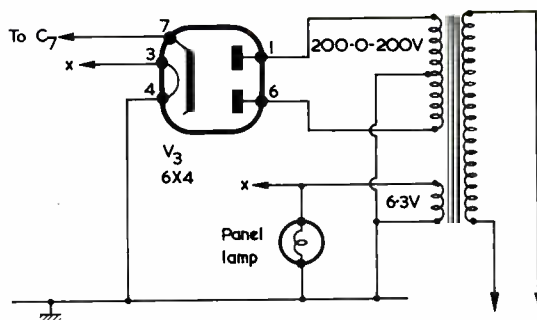

Fig. 2. An alternative power supply using full-wave rectification
The power requirement is very modest and a small mains transformer able to provide 220V 20mA and 6.3V 1.5A is quite adequate. Half-wave rectification is given by a 6X4, but a metal rectifier or silicon diode will do just as well provided it has a peak inverse voltage (p.i.v.) rating of not less than 800. The end of the diode or rectifier marked red, or with a + sign, is the equivalent of the valve cathode. If the transformer has a full wave h.t. secondary winding, it is better to use full-wave rectification by valve and Fig. 2 shows how this should be arranged.* A 200-0-200 volt secondary will be adequate here.
* At 200 volts r.m.s., the 6X4 should have a limiting resistance of 240 Ω in series with each anode. With a small mains transformer, this will normally be given by the resistance of the windings themselves. In Fig. 2, the resistance of either half of the h.t. secondary, plus the resistance of the primary, should be 240 Ω or more. If less, insert physical resistors, to make the total resistance up to this value, in series with each anode. In Fig. 1, the resistance of the h.t. secondary plus the resistance of the primary should, preferably, be 280 Ω or more. If less, insert a physical resistor, to make the total resistance up to this value, between the h.t. secondary and the anodes.—Editor.
Fig. 2 (a). The Lektrokit lead-through insulator (b). The insulator is a push fit in any of the $\frac{1}{4}$ in holes of the Chassis Plates, soldered connections being made to the protruding centre conductor on either side
If an insulated lead is passed through a hole in a metal plate without employing a grommet or similar fitment to prevent the lead insulation from chafing against the metal edge of the hole, the insulation may later break down. In the Lektrokit Chassis System, circuits on either side of a Chassis Plate may be connected together by means of lead-through insulators (Lektrokit Part No. LK-2021), as shown in Fig. 2. These form a push fit in the $\frac{1}{8}$ in holes in the Chassis Plates, connection being made to the protruding centre wire on either side. The use of these lead-through insulators increases the number of solder joints required, but they offer the advantages of reliable insulation and neat wiring. The writer found that several of the lead-through insulators employed in the prototype were a little tight in their holes, but this was cured by a touch of a file to the flash lines on their bodies.¹ The lead-through insulators may be pushed into position by causing the slightly open jaws of a pair of pliers to bear down on the upper edge of the body.